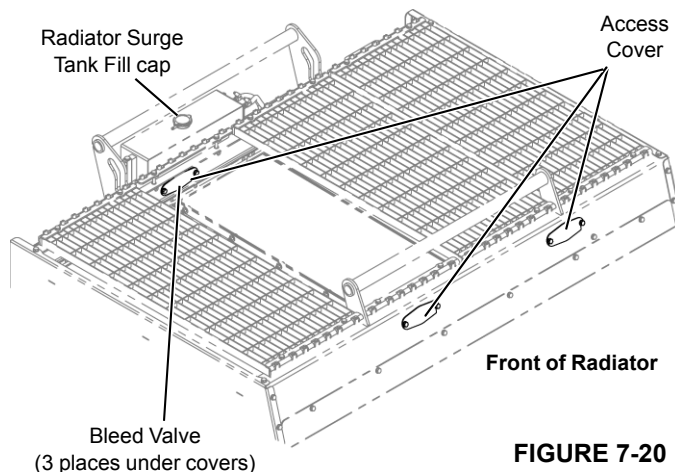
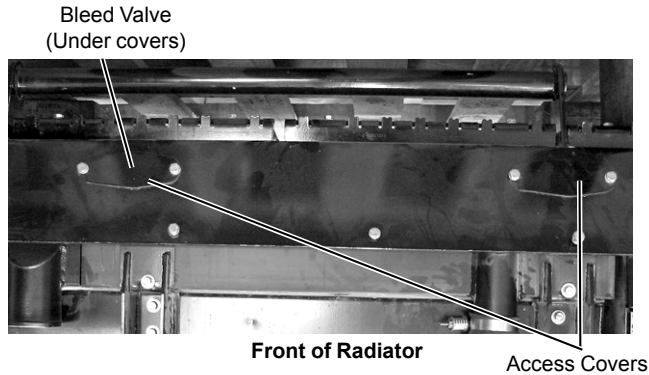

FIGURE 7-20
FIGURE 7-21
2. Remove covers over three bleed valves — two at front end of radiator and one at back end (see Figure 7-20 and Figure 7-21).